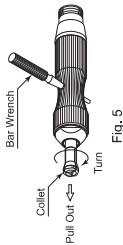

Fig. 5
- Remove the tool as detailed in Section " 8. CHANGING THE CUTTING TOOL. " procedure and remove the collet (Fig. 5).